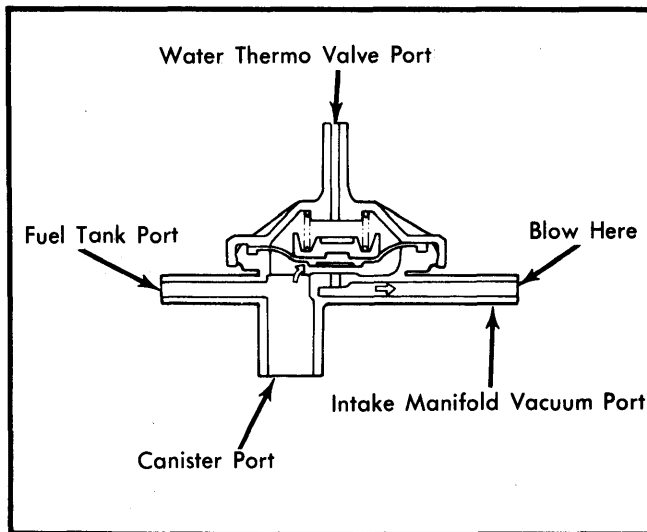

Fig. 4 Testing No. 1 Purge Control Valve
- 1) Disconnect manifold vacuum hose from manifold. Disconnect and plug control valve-to-water thermo valve hose. See Fig. 4.